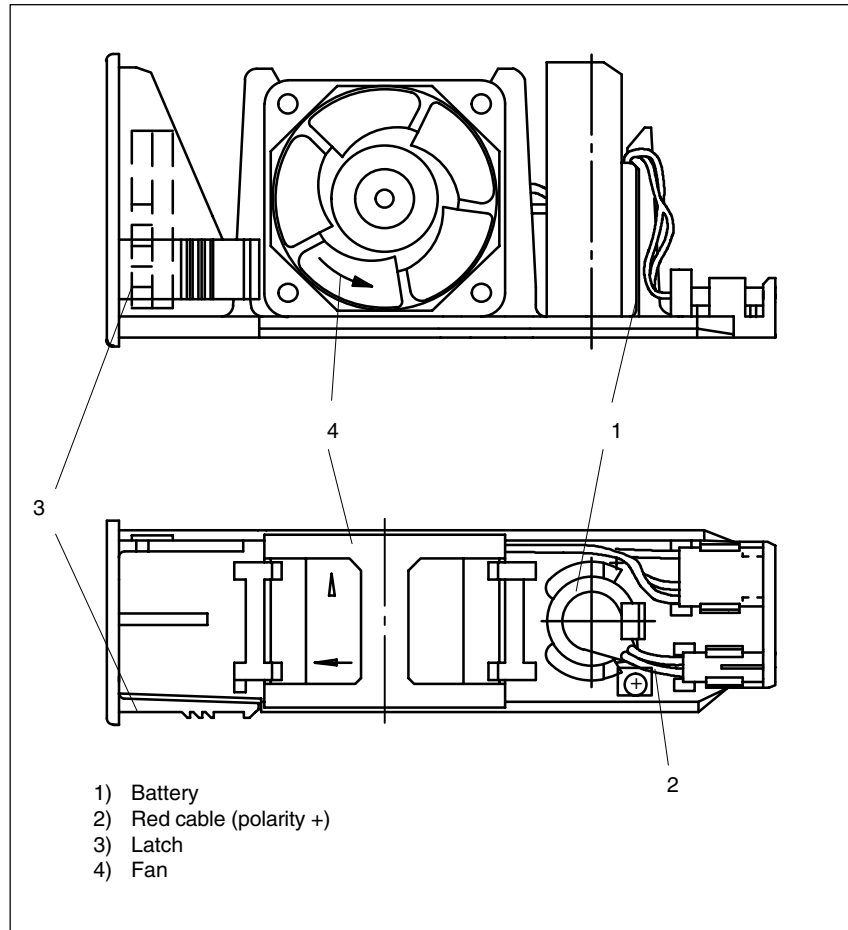

Fig. 8-1 Battery/fan slide-in module
2. Pull out the slide-in module. There is a latch (3) on the lower side of the slide-in module, see Fig. 8-1. Press this latch (3) up and pull the slide-in module forwards and out at the same time.